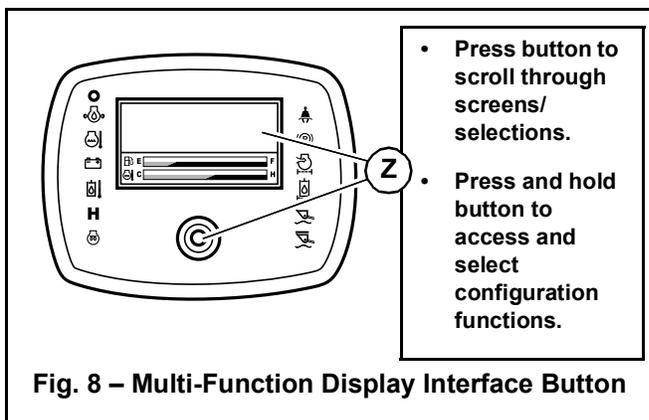

Fig. 8 – Multi-Function Display Interface Button
Press and release the multi-function display interface button (Z, Fig. 8) to scroll through the status screens and any current error or maintenance required screens.
<p>Coolant Temperature Screen</p> <p>Default screen when no error codes are active.</p> <p>Press and release interface button (Z, Fig. 8) as many times as required to access this screen. Displays coolant temperature in “°F” or “°C”, depending upon units selected in Temperature Units Configuration screen (M).</p>
<p>Engine RPMs Screen</p> <p>Press and release interface button (Z, Fig. 8) as many times as required to access this screen. Displays engine crankshaft revolutions per minute.</p>
<p>Battery Voltage Screen</p> <p>Press and release interface button (Z, Fig. 8) as many times as required to access this screen. Displays battery charge in volts.</p>
<p>Accumulated Service Hours Screen</p> <p>Press and release interface button (Z, Fig. 8) as many times as required to access this screen. Displays accumulated operation time in hours. Time accumulates when engine is running.</p>
<p>Maintenance Required Screen Displays in the screen rotation along with status screens when scheduled maintenance is required. See page "Maintenance Schedule" on page 123. To dismiss this screen, press and hold the interface button (Z, Fig. 8). This screen will display in rotation when scrolling through the status screens. After stepping through all screens once, the display will freeze on this screen.</p>
<p>Configuration Selection Screens</p> 	<p>Configuration Selection Screens</p> <p>To access these screens, press and hold interface button (Z, Fig. 8) for 5 seconds. Press and release interface button (Z, Fig. 8) to move selection caret (A) down through the configuration selections. Press and hold interface button for 5 seconds to go to the configuration screen selected by selection caret (A).</p> <p>To exit the configuration selection screens, move selection caret (A) to the “EXIT” option and press and hold interface button for 5 seconds.</p>
<p>DPF Regeneration Configuration Selection Screen</p> <p>Models RT175 and RT210 with Tier 4 Engines</p> <p>To access this screen, press and hold interface button (Z, Fig. 8) for 3 seconds. Press and release interface button (Z, Fig. 8) to move selection caret (A) down through the selections to the DPF regeneration configuration selection. Press and hold interface button for 5 seconds to go to the DPF regeneration configuration screen.</p> <p>To exit the configuration selection screen, move selection caret (A) to the “EXIT” option and press and hold interface button for 5 seconds.</p>
<p>Configuration Screens</p> 	<p>Control Sensitivity Configuration Screen</p> <p>To change joystick control sensitivity, press and release interface button (Z, Fig. 8) to scroll through selections and change control sensitivity. With the caret closer to the  symbol, joystick control becomes increasingly aggressive and immediate; with the caret closer to the  symbol, joystick control becomes less aggressive and more relaxed.</p> <p>Control sensitivity configuration changes are saved when exiting this screen. To exit this screen, press and hold interface button for 5 seconds.</p>
<p>Travel Speed Limit Configuration Screen (Option)</p> <p>This screen displays only on machines equipped with the speed limit option. Press and release interface button (Z, Fig. 8) to choose between H-L (high/low) or speed limit travel drive modes. See “Travel Speed Range Selection” on page 64 for more information about the travel speed limit option.</p> <p>Vehicle speed limit configuration changes are saved when exiting this screen. To exit this screen, press and hold interface button for 5 seconds.</p>
<p>Control Joystick ISO/D-H Pattern Selection Screen (Option)</p> <p>This screen displays only on machines equipped with the D-H control pattern option. Press and release interface button (Z, Fig. 8) to choose between ISO or D-H joystick control options. See “Control Joysticks” on page 55 for more information about the ISO and D-H control options.</p> <p>Control joystick pattern configuration changes are saved when exiting this screen. To exit this screen, press and hold interface button for 5 seconds.</p>
<p>Coolant Temperature °F/°C Units Selection Screen</p> <p>Press and release interface button (Z, Fig. 8) to choose between coolant temperature display options (°F/°C).</p> <p>Coolant temperature units configuration changes are saved when exiting this screen. To exit this screen, press and hold interface button for 5 seconds.</p>
<p>Display Screen Contrast Configuration Screen</p> <p>Press and release interface button (Z, Fig. 8) to adjust the screen contrast.</p> <p>Screen contrast changes are saved when exiting this screen. To exit this screen, press and hold interface button for 5 seconds.</p>
<p>Display Screen Font Size Configuration Screen</p> <p>Press and release interface button (Z, Fig. 8) to adjust the font size.</p> <p>Font size changes are saved when exiting this screen. To exit this screen, press and hold interface button for 5 seconds.</p>
<p>Changes Display in Lower Ambient Light</p> <p>Changes Display in Higher Ambient Light</p> <p>(NIGHT-TIME MODE) (DAY-TIME MODE)</p> <p>Pointer Indicates Current Ambient Light Level</p>	<p>Night/Day Display Change Configuration Screen</p> <p>To maximize display visibility, the display changes between a black-on-white display and a white-on-black display, depending upon the intensity of ambient light. The set point where this change occurs can be adjusted using this screen.</p> <p>Press and release interface button (Z, Fig. 8) to adjust the night/day display change set point. When the caret is closer to the ☀ symbol, the display changes in brighter ambient light; when it is closer to the 🌙 symbol, the display changes in lower ambient light.</p> <p>Night/day display configuration changes are saved when exiting this screen. To exit this screen, press and hold interface button for 5 seconds.</p>